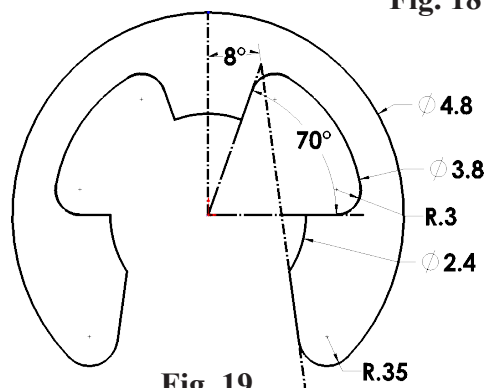

Fig. 19
Step 3. Click **Mirror Entities**  on the Sketch toolbar, **Fig. 19**.